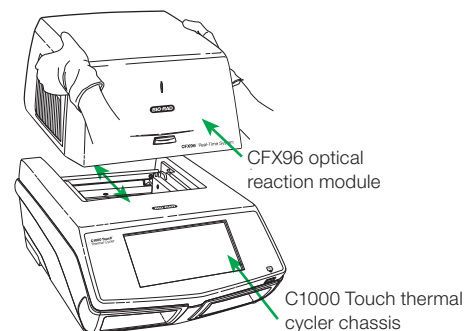

Fig. 1. Lifting the CFX96 optical reaction module onto the C1000 Touch thermal cycler chassis.
2. Remove the instructions overlay from the C1000 Touch chassis. Lift the CFX96 or CFX96 Deep Well module using the handle indents above the side air vents, as shown in Figure 1.